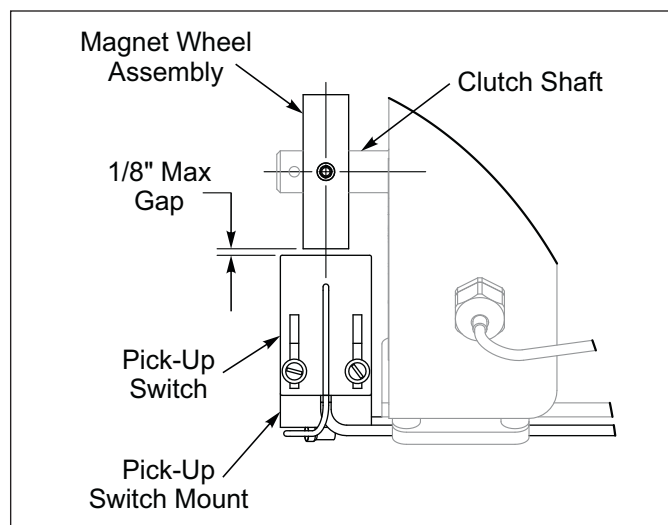

Figure 2-38: Pick-Up Switch Positioning
6. Adjust the Pick-Up Switch and Pick-Up Switch Bracket so the centerline of the Magnet Wheel Assembly and Pick-Up Switch are horizontally and vertically aligned with maximum 1/8" between the Magnet Wheel Assembly and Pick-Up Switch. **See Figures 2-38.** Tighten all screws.